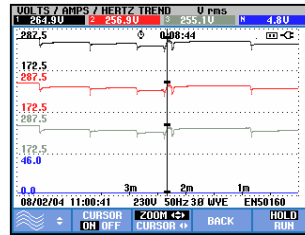

Figure 17-6. Trend display with cursor and zoom on
- Press F3 to assign the arrow keys to Zoom operation. The left/right arrow keys can be used now to stretch and shrink the trends horizontally as shown in figure 17.6. The up/down arrow keys do this in vertical direction. If the Cursor is on, horizontal zoom operates symmetrically around the Cursor; when off horizontal zoom operates from the right screen side. Vertical zoom operates around the screen center.